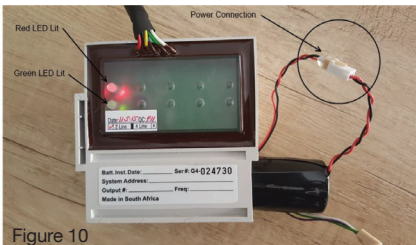

Figure 10
- Referring to Figure 10, plug the battery connector socket into the radio receiver modules power connector plug (red and black wires).